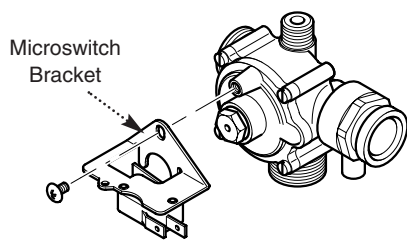

Fig. 63
12.20 Central Heating Differential Valve (Figs. 63 & 64)